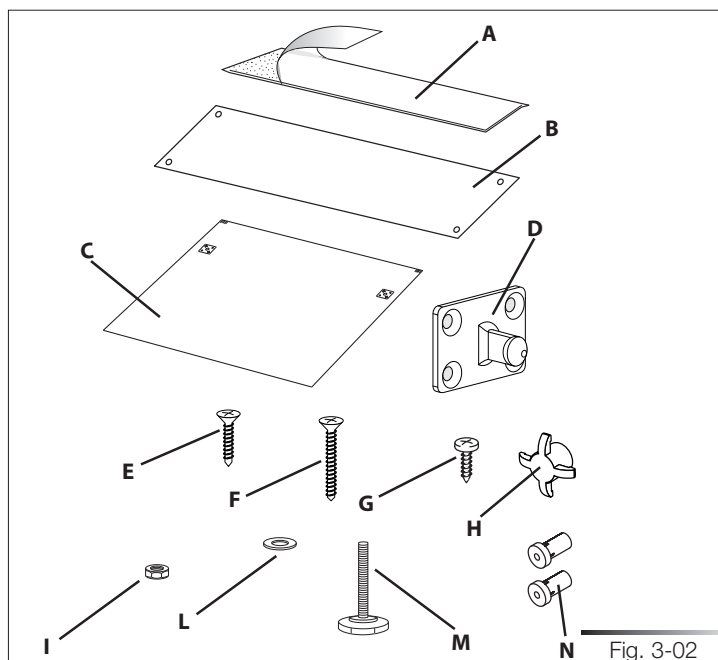

Fig. 3-02
- adhesive steam guard (ref. A fig. 3-02);
- 1 steel steam guard (ref. B fig. 3-02);*
- 1 template for door panel (ref. C fig. 3-02);
- 2 hooks for door panel (ref. D fig. 3-02);
- 8 screws for securing the door panel hooks (ref. E fig. 3-02);
- 2 screws for securing the door (ref. F fig. 3-02);
- 2 screws for fixing the dishwasher to the adjacent walls (ref. G fig. 3-02);
- 2 screw caps (ref. H fig. 3-02).
- 2 nuts (only for some models) (ref. I fig. 3-02);
- 2 washers (only for some models) (ref. L fig. 3-02);
- 2 adjustment feet (only for some models) (ref. M fig. 3-02);
- 2 door spacers (only for certain models) (ref. N fig. 3-02).